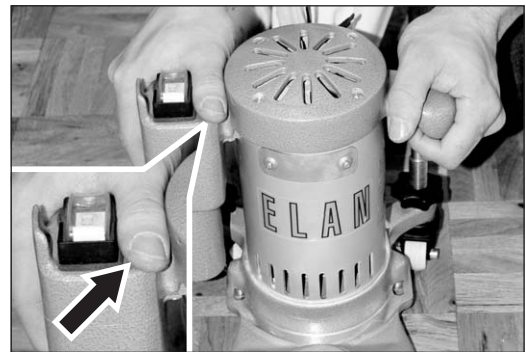

Fig. 13 Guide the ELAN with both hands. **Do not touch the switch button while sanding!**
- **Do not touch the switch button while sanding (fig. 13)! Otherwise the wear of the switch increases significantly!**